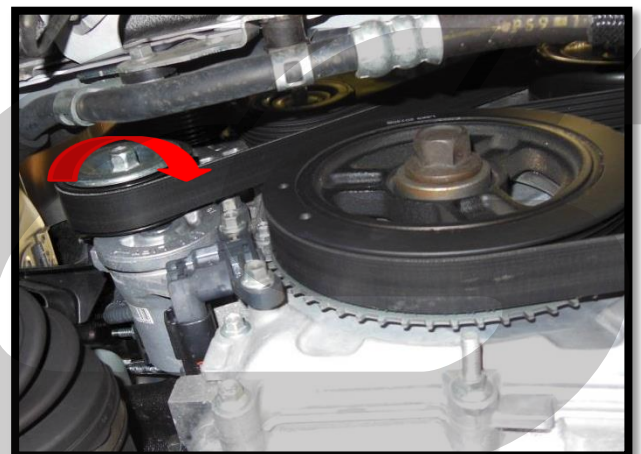

Figure 3b
- b) Remove the serpentine belt. Use a long 14mm wrench to turn the belt tensioner clock wise (red arrow in Figure 3b). Loosen the belt and remove it from the car.